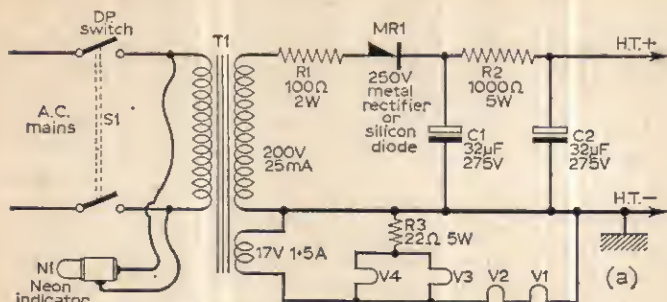
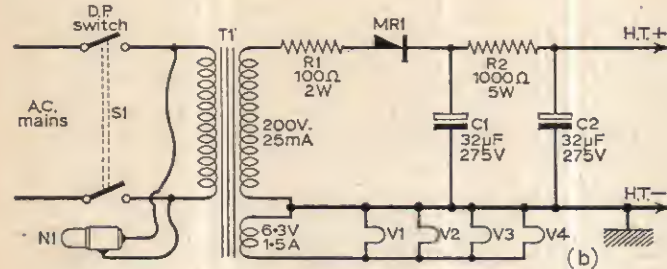

Fig. 3a—Power supply for turret tuners having series heaters.
Fig. 3b—Circuit arrangements for turrets with parallel heaters.
to your a.f. amplifier. A simple power supply unit is required. For series-connected heaters use the arrangement shown in Fig. 3a, for parallel heaters use the arrangement shown in Fig. 3b.
COMPONENTS LIST FOR POWER SUPPLY UNIT (Fig. 3a and 3b)
- R3 22Ω 5W (Fig. 3a only)
- T1 Mains transformer. Secondaries: 250V 25mA; 6.3V 1.5A (Fig. 3a) or 17V, 1.5A (Fig. 3b)